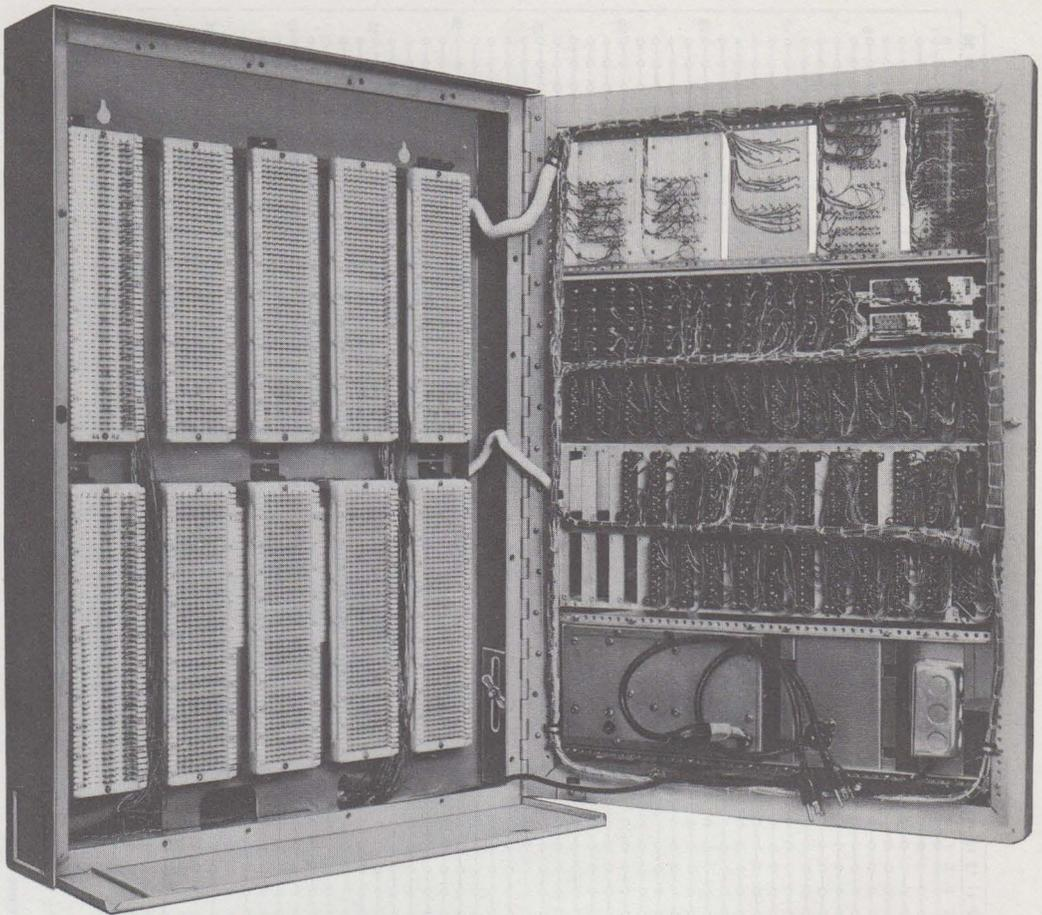

Fig. 2—580A KSU (Carrier Open)
2.04 All wiring connections are made on the connecting blocks located in the KSU (Fig. 2). Since all stations pick up all lines on the same button at each telephone set, all equipment connections are factory-wired to the connecting blocks.